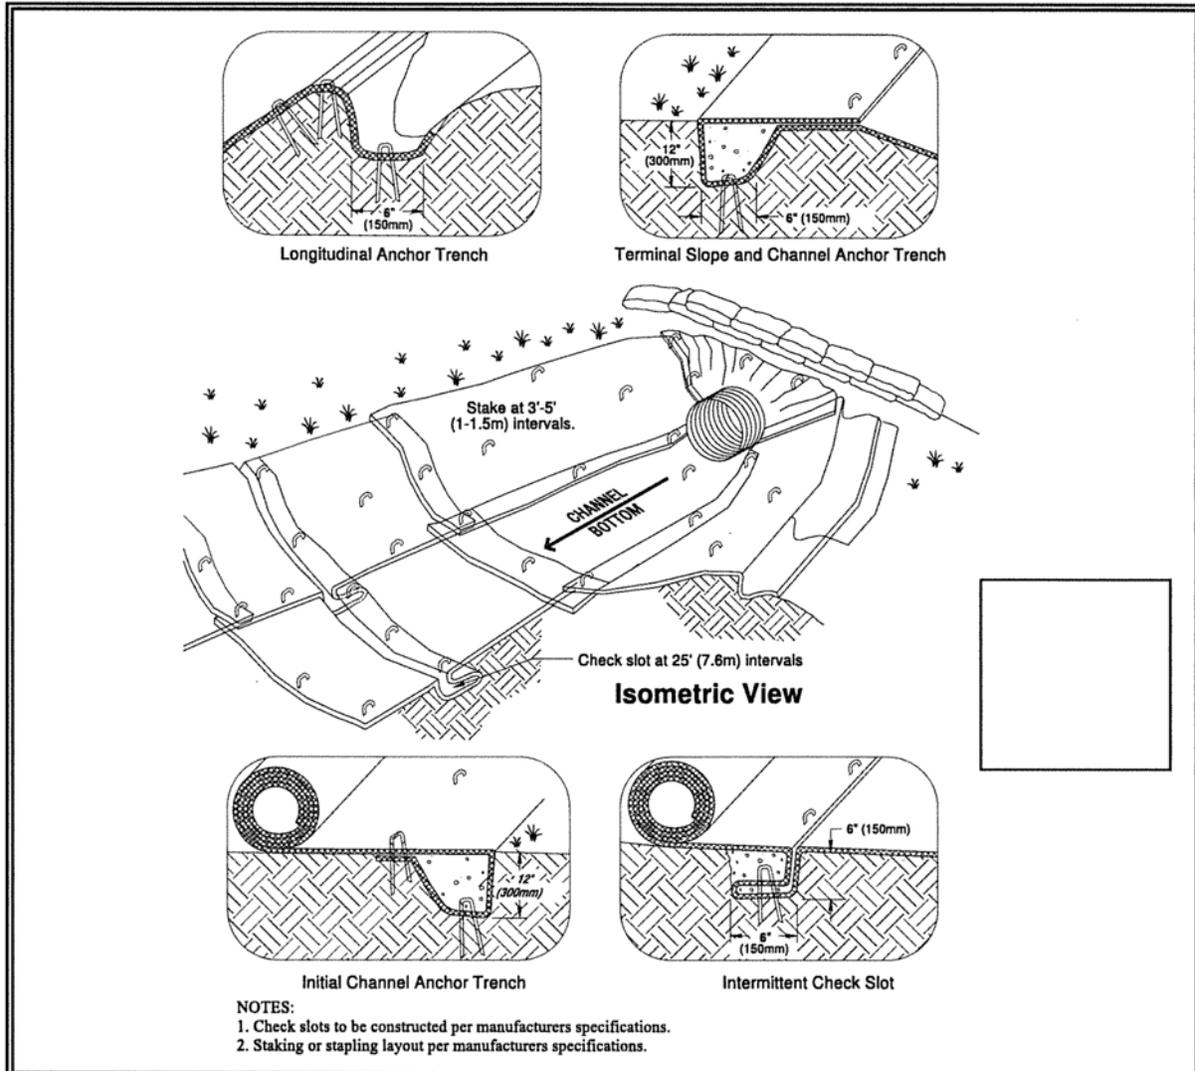
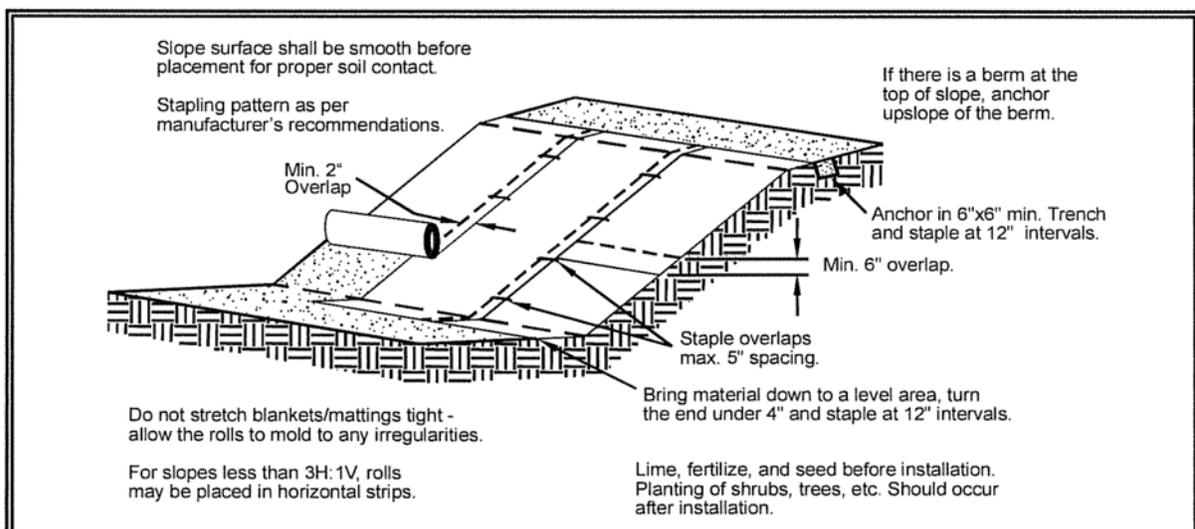

Figure 4.4 – Channel Installation
Figure 4.5 – Slope Installation
- See Figure 4.4 and Figure 4.5 for typical orientation and installation of blankets used in channels and as slope protection. Note: these are typical only; all blankets must be installed per manufacturer's installation instructions.